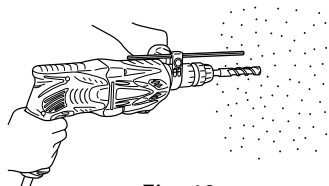

Fig. 10
- (1) Mount the drill bit.
- (2) Pull the trigger switch after applying the drill bit tip to the drilling position (Fig. 10)
When the drill bit touches an iron reinforcing rod, the bit will stop immediately and the rotary hammer will react to revolve. Therefore please grip the side handle and handle tightly as shown in Fig. 10.